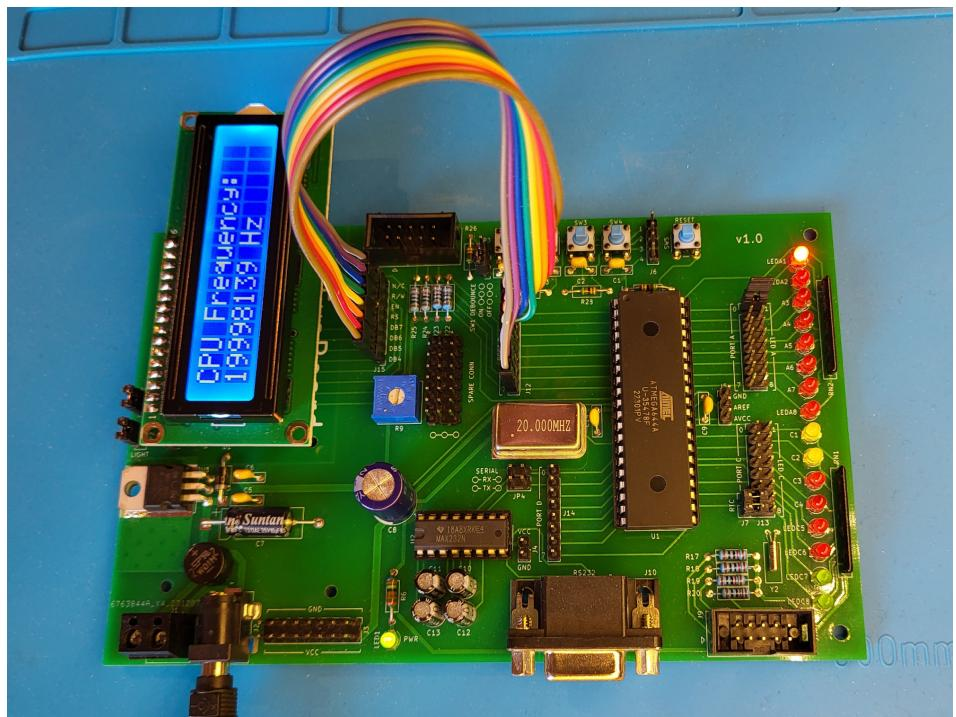

Figure 57: Wiring for the RTC example
**Preparation** Connect the pins of J7 (RTC) to Port C6 and C7 (the lower left two pins of J13) using two jumpers. With another jumper, connect Port A0 to LEDA1 (the two top pins of J11). Finally, attach the LCD to J16 and connect J15 to J12 like in Table 2. See Figure 57.